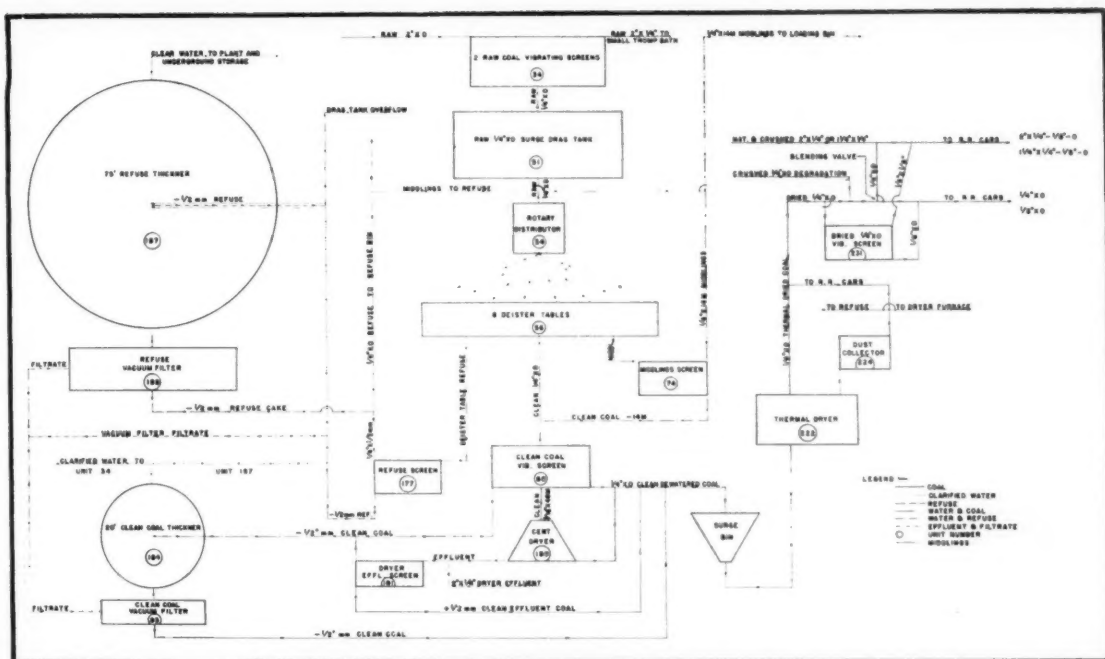

Fig. 3. Detailed flowsheet of the Leatherwood No. 2 fine coal and refuse circuit
Figure 3 is a detailed flow sheet of the Leatherwood No. 2 fine coal and refuse circuits. From the raw coal vibrating screens (34) the minus ¼-in. material, at the rate of 80 tph, is sluiced to a large, conventional type drag tank (51) which serves the following purposes:
- (1) Because the tank is equipped with a variable discharge feature and has a storage capacity of about 22 tons of coal, it provides at least 15-min surge capacity in the fine coal circuit.
Referring again to figure 3, the clean ¼-in. by 0 is discharged from the concentrating tables to a clean coal sump (58). The ¼-in. by 0 middlings product from the tables passes over a 14-mesh middlings screen (74) from which the ¼-in. by 14-mesh material is conveyed to the middlings bin (78). This material may also be conveyed directly to the refuse bin (49). Because of the nature of the impurities in the coal and the classifying action of the concentrating tables, the minus 14-mesh underproduct from the middlings screen is low in ash and is, therefore, discharged to the clean coal sump. From the clean coal sump the washed ¼-in. by 0 is pumped as a slurry to a double-deck clean coal